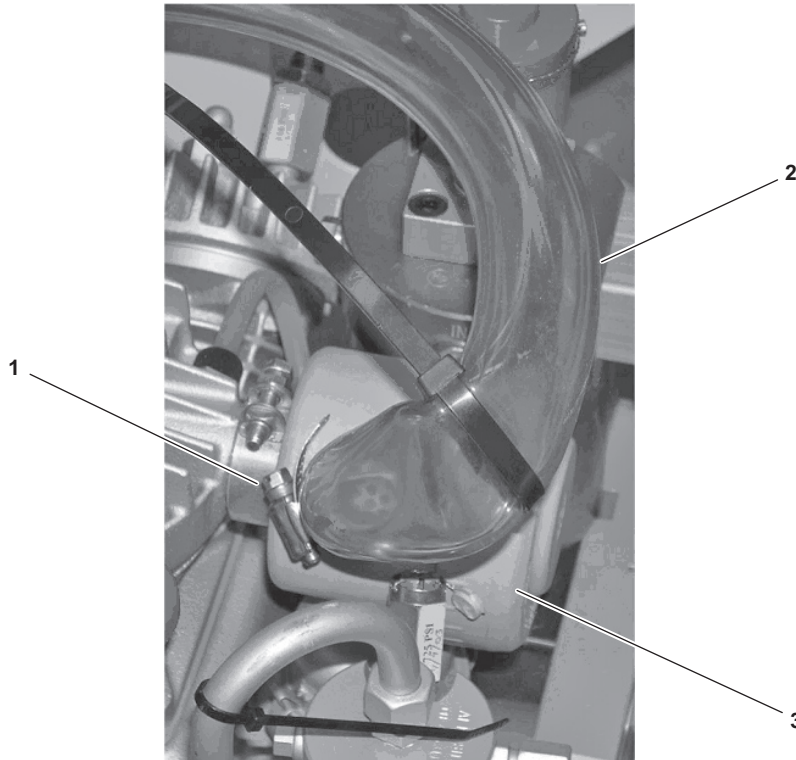

Figure 6-33. Air Inlet Hose and Hose Clamp
- (1) Using a screwdriver, loosen the hose clamp (figure 6-33, item 1) that secures the air inlet hose (figure 6-33, item 2) to the air filter housing (figure 6-33, item 3) by turning CCW.
- (2) When sufficient slack is present in the hose clamp (figure 6-33, item 1), pull the air inlet hose (figure 6-33, item 2) off of the air filter housing (figure 6-33, item 3).